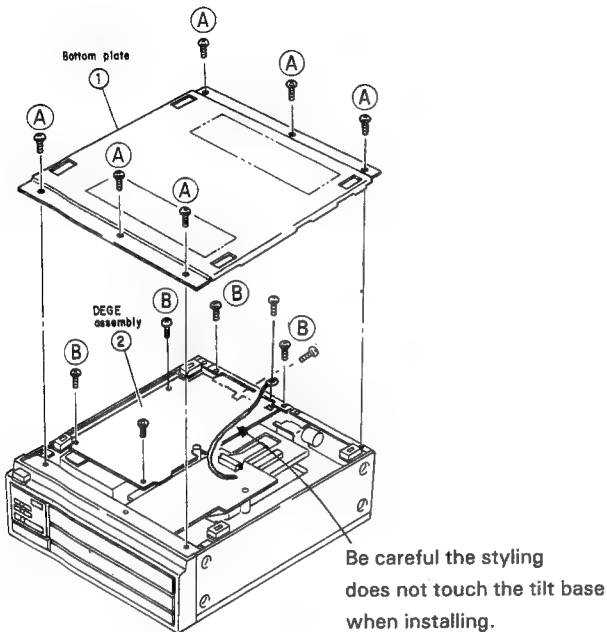

Fig. 7-12
7.9 HOW TO REMOVE THE MECHANISM ASSEMBLY (Fig. 7-12, 13)
- ① Remove the six screws (A) to remove the bottom plate.
- ② Remove the seven screws (B) to remove the DEGE assembly.